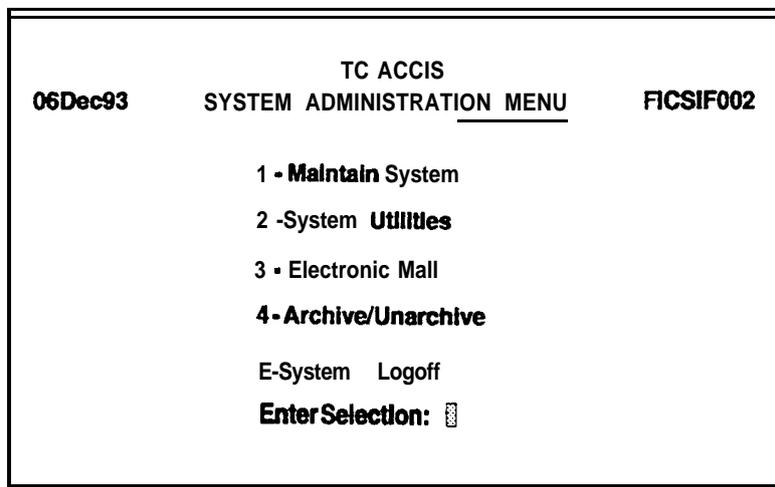

Figure 9-1. TC ACCIS System Administration Menu
2. At the TC ACCIS System Administration menu (see Figure 9-1), select **System Utilities**
2. From the **System Administration Menu** (see Figure 9-1), select **System Utilities**.